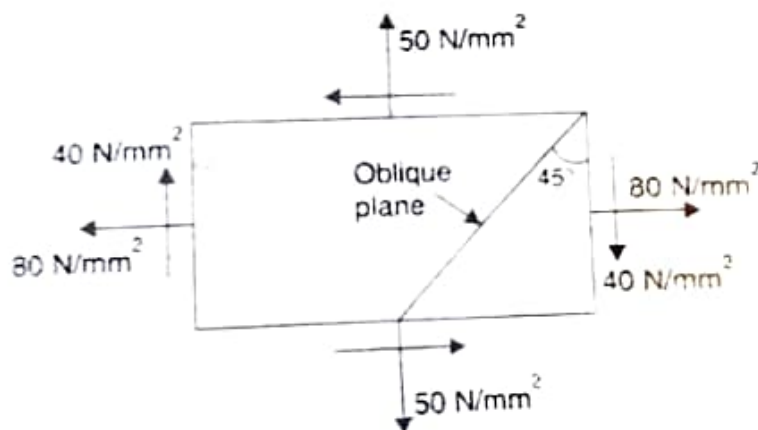

Fig. 3
5. At a point in a strained material is subjected to stresses is shown in Figure 3. Using Mohr's circle method, determine the normal and tangential stresses across the oblique plane.